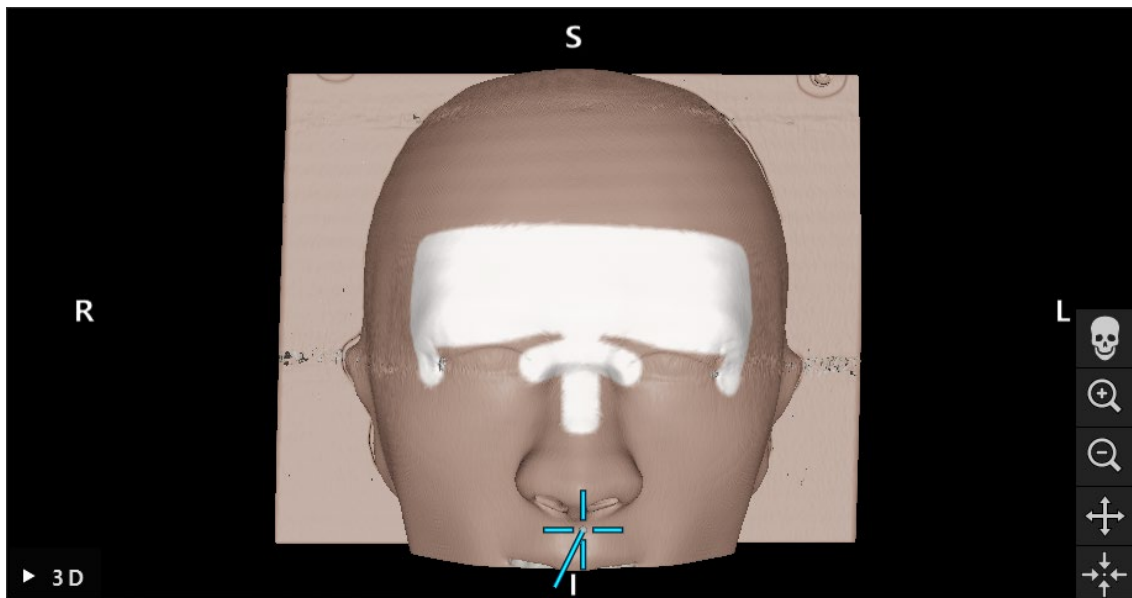

Figure 144 Move pointer over surface
3. After successfully touching all landmarks, the advice window shows the message, *Move pointer over surface* (see Figure 144).